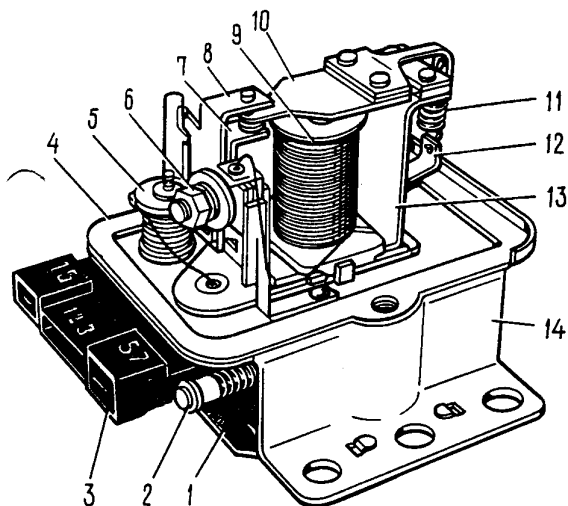
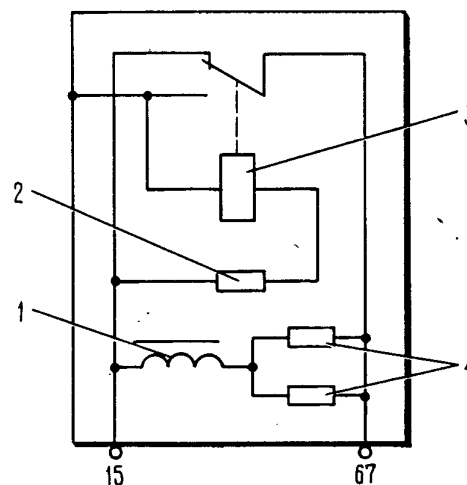

Fig. 7-10. Voltage Regulator PP-380:
Fig. 7-11. Voltage Regulator Circuit Diagram:
A general view of the voltage regulator appears in Fig. 7-10 and its electrical connections, in Fig. 7-11.
2nd stage tests. Run the generator rotor at 5000 min^{-1} . Set the generator load current to 2-12 A with rheostat 9. Check the generator voltage which must be (14.2 ± 0.3) V. If it is different, stop the generator, disconnect the storage battery, remove the regulator cover and, bending bracket 12 (Fig. 7-10) weaken spring 11 (if the voltage is too high) or increase its tension (if the voltage is too low). Replace the regulator cover and recheck the 2nd stage voltage.
If the voltage fails to fall within these limits, stop the generator, disconnect the storage battery, remove the regulator cover, loosen nut 6 (Fig. 7-10) and shift bracket 8 through 0.1 - 0.2 mm.
1. An open-circuit fault in thermal-compensating resistor 2 (Fig. 7-11) or in the regulator winding; in this case the voltage cannot be regulated and rises excessively. This defect can be discovered by measuring the resistance between terminal "15" and the "ground" (base) with an ohmmeter.
Cleaning the contacts. To clean the contacts take off the armature spring and, loosening nut 6 (Fig. 7-10), lift somewhat 1st stage stationary contact bracket 8.